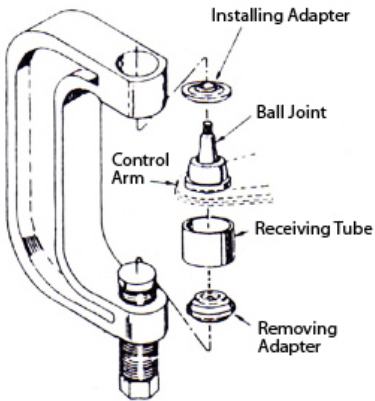

FIGURE 1
1. Assemble the ball joint press over the control arm as shown in Figure 1. Select the correct size receiving tube, and position it under the vehicle ball joint as shown.